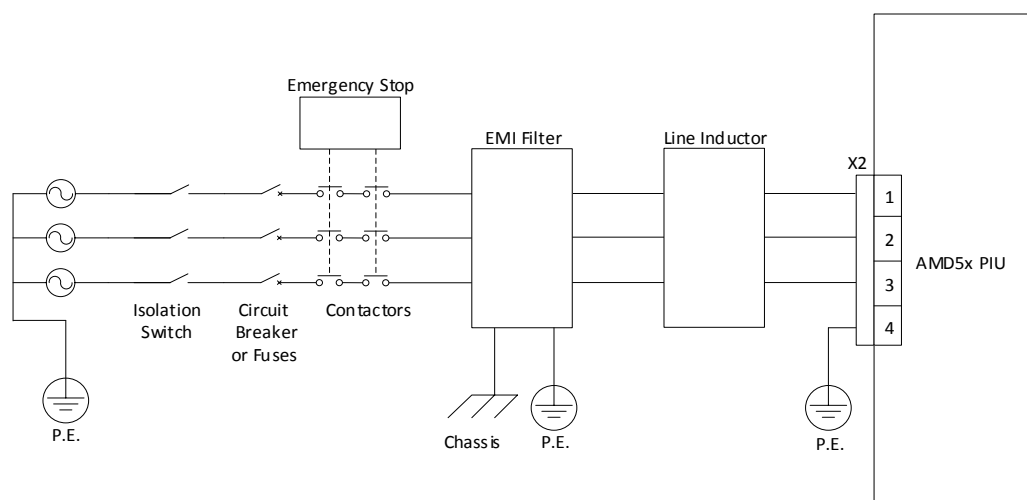

Figure 5-6: EMC components installation for a 3 phase supply
Figure 5-6 shows the recommended EMC components for wiring of a 3 phase supply system. An EMI filter and a 3 phase line reactor (inductor) are installed on the input power side.
- Ensure the EMI filter is connected to the mains supply for maximum performance (refer to Figure 5-6)